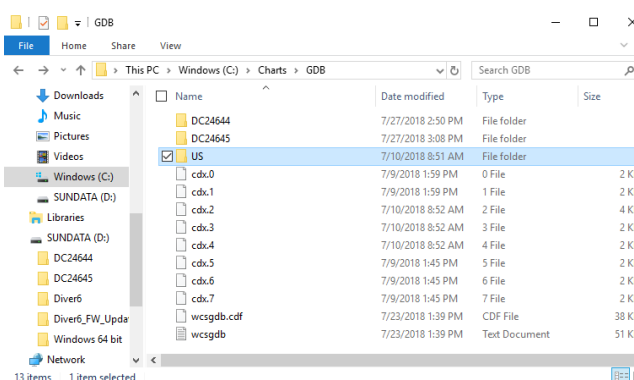

Figure 82: Chart Directory
1. Download your charts and place them in your chart GDB directory. See (Figure 82) the example directory structure to the right.